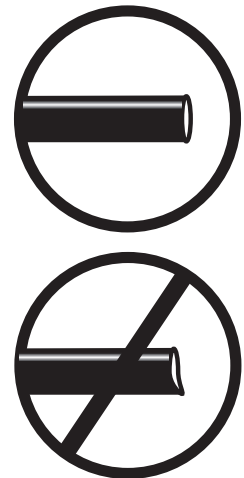

fig. 6
- a. Check the air line connection by deflating the spring and removing the line by pulling the collar against the fitting and pulling firmly on the air line. Trim 1" off the end of the air line. Be sure the cut is clean and square (see fig. 6). Reinsert the air line into the push-to-connect fitting.
2. If the preceding steps have not resolved the problem, call Air Lift customer service at (800) 248-0892.